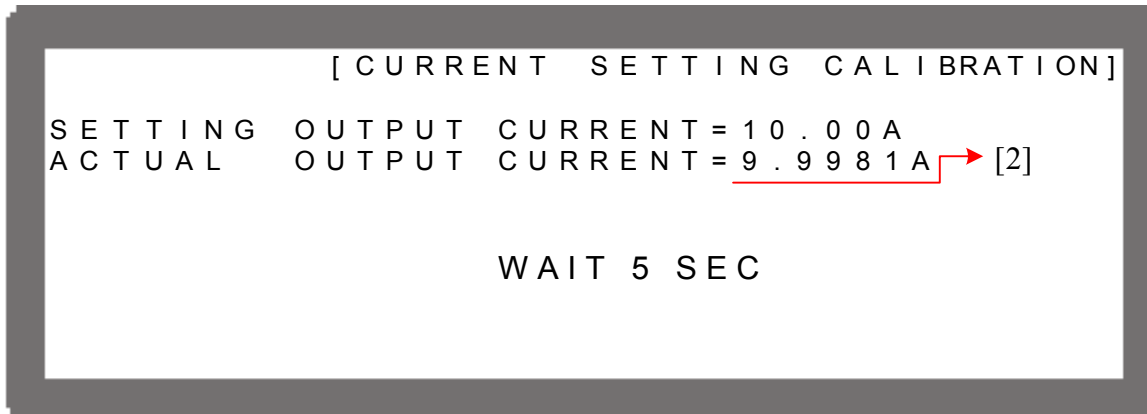

Figure 3-113
7. Press "" will perform 10A calibration. The system will set the output current to 10.00A automatically and appear second reading screen. Once the reading is done, the cursor will stop at position [2] as Figure 3-113 shows. Input the current (4 digits after decimal point) read by Current Shunt (DVM) and press "" to confirm. Use 2A and 10A for calibration, the system will calculate the calibration factor for the low current range.